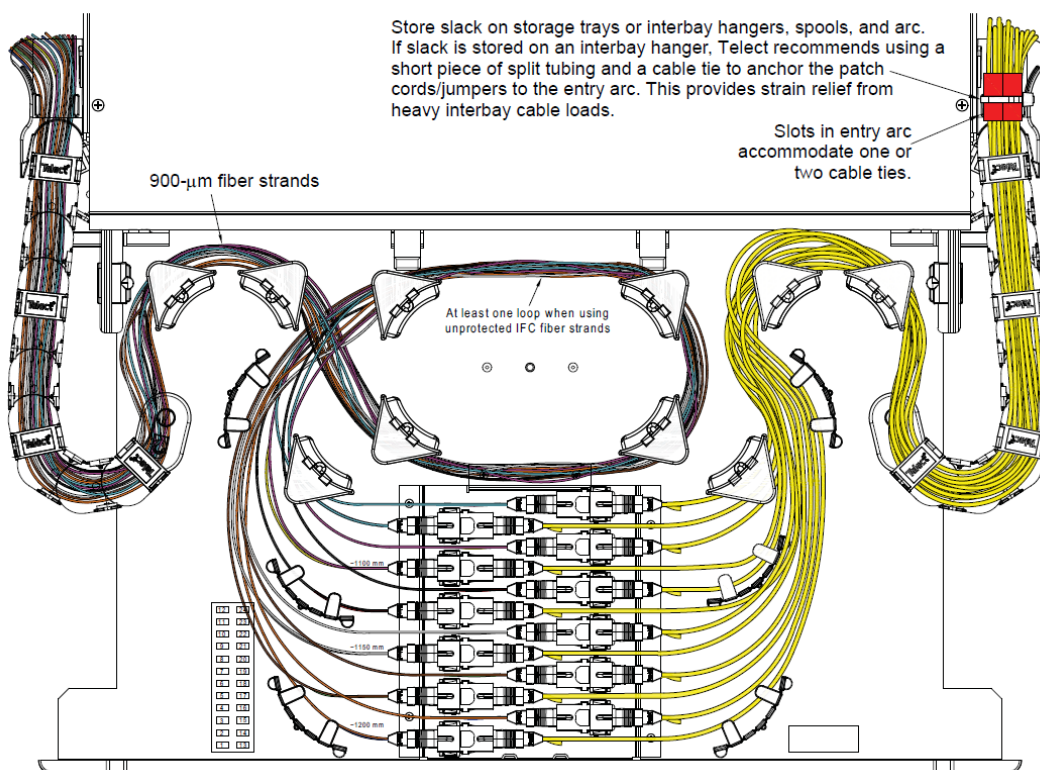

Figure 33 - ESTF-P024-USC-000 with IFC Multi-fiber on the Left & Jumpers on the Right
11. Route the fiber, as shown in Figures 33 and 34.